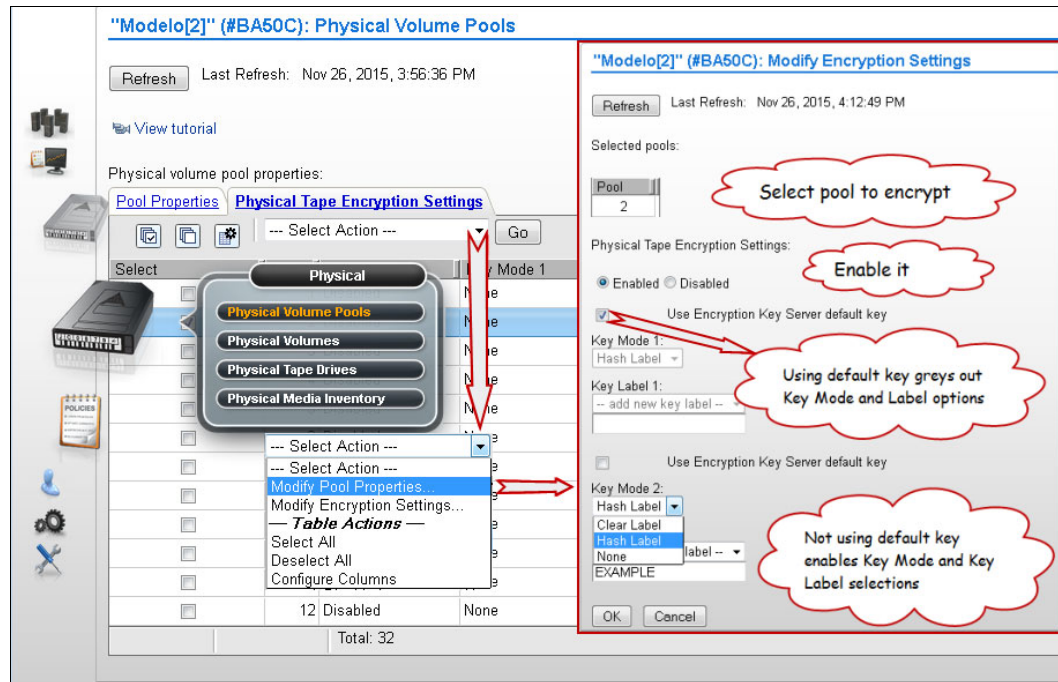

Figure 9-167 Modify encryption settings parameters
5. Click **Go** to open the Modify Encryption Settings window (Figure 9-167).